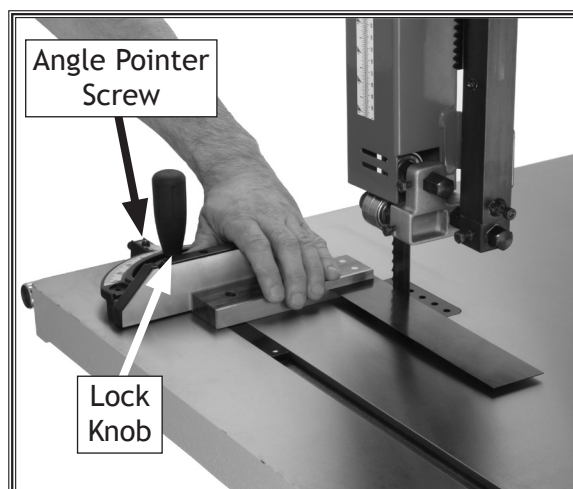

Figure 42. Example of squaring miter gauge to blade.
1. Place one edge of a machinist's square against the face of the miter gauge and place the other against the blade face, as shown in **Figure 42**.